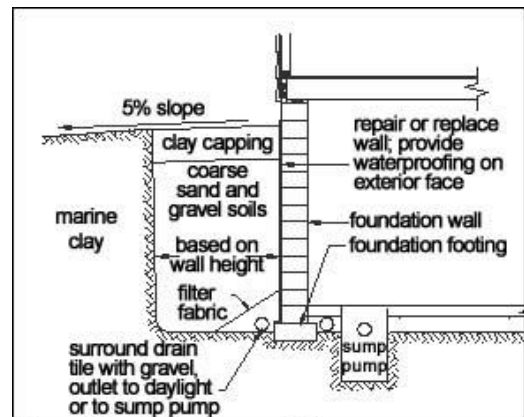

Figure 4: Repair or replacement of a damaged foundation wall
Based on application submissions and project reviews, the most successful repair method for foundation walls damaged from Marine Clay backfill is to remove and replace the clay with soils consisting predominantly of sandy or gravelly materials and to place waterproofing material along the outside of the wall and a foundation drain at the footing level on the outside of the house (Figure 4). Depending on the extent of damage, some walls will need to be replaced, while others can be repaired.
- Finally, a one to two-foot thick capping layer of low shrink-swell silty or clayey soils should be placed at the ground surface and thoroughly compacted to reduce the infiltration of surface water. On top of the compacted layer, a few inches of top soil can be placed to encourage the growth of vegetation. The slope next to the house should be at least five percent (a six-inch drop for each ten feet in distance away from the house) (Figure 4).